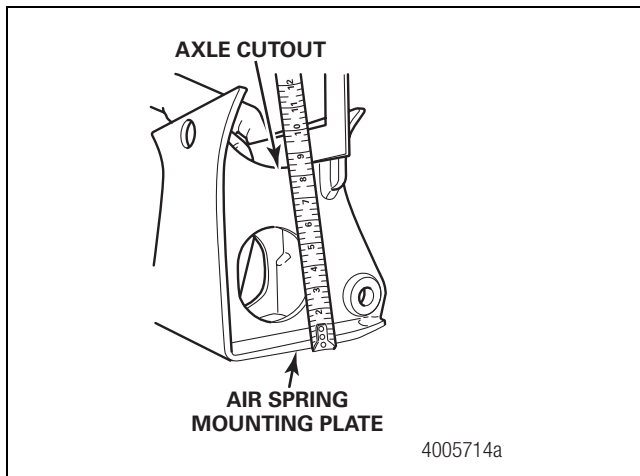

Figure 12
- Verify that the new axle seats are the same height as the ones you removed. Measure from the air spring mounting plate to the axle cutout. Compare the dimension to the size of those removed. Figure 12.